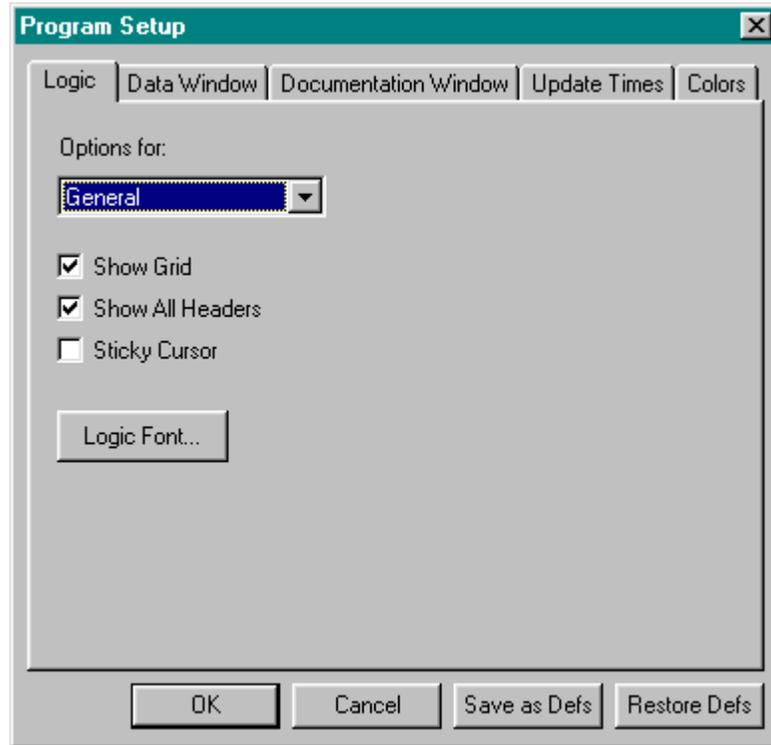

Figure 4.1
**Result:** The Program Setup dialog box appears (Figure 4.1).